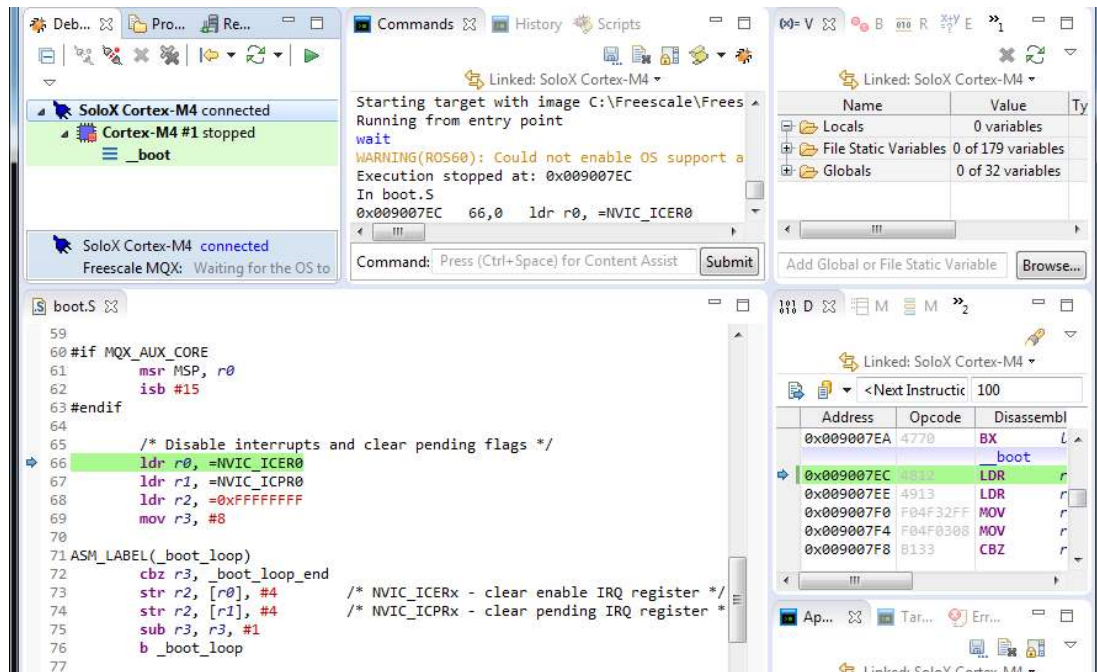

Figure 15 - Active debug session
- Click the “Apply” button and then the “Debug” button to initiate a debug session. When the application has been downloaded to the target it could look like Figure 15.